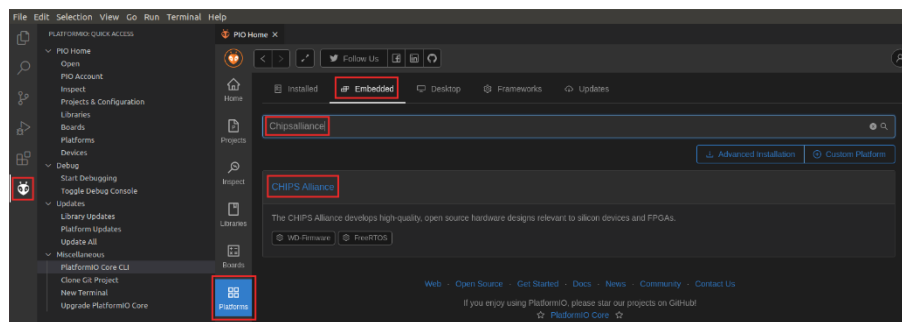

Figure 98. Selecting the CHIPS Alliance Platform
1. View the Quick Access menu by clicking on the  button, located in the left side bar (see Figure 98). Then, in the PIO Home, click on the  button and then on the  tab (Figure 98). Look for **Chipsalliance** (the platform that we use in
RVfpga) and open it by clicking on the **CHIPS Alliance** button (Figure 98).